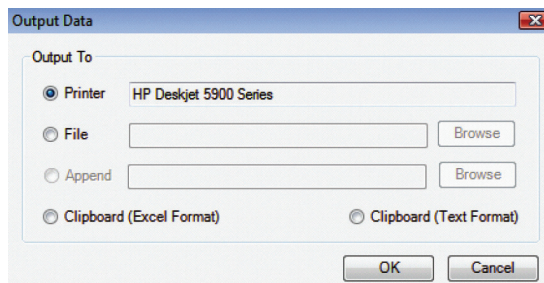

Figure 20. Output Data Selection Box.
8. Exporting Data. The Output tool provides a way to export the data to a printer, to the clipboard, or to an ASCII file (Figure 20). This ASCII file can then be imported into a spreadsheet for further analysis and/or graphing.